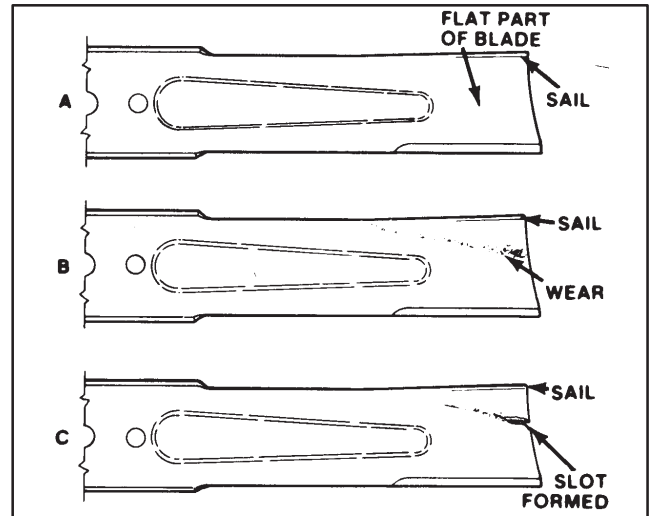

Figure 39
2. Examine cutting ends of the blade carefully, especially where the flat and curved parts of the blade meet (Fig. 39-A). Since sand and abrasive material can wear away the metal that connects the flat and curved parts of the blade, check the blade before using the machine. If wear is noticed (Fig. 39-B), replace the blade: refer to Removing Cutter Blade.
If blade is allowed to wear, a slot will form between the sail and flat part of the blade (Fig. 39-C). Eventually a piece of the blade may break off and be thrown from under the housing, possibly resulting in serious injury to yourself or bystander.